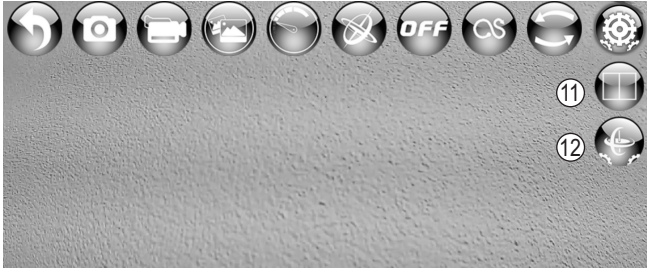

Figure 26
- Select the icon in figure 26, position 13. The rotors will start to turn.
The "VR" icon (figure 26, position 11) activates a "quasi 3D mode". The live image from the camera is split into two parts on your smartphone screen. This allows you to connect your smartphone to a 3D headset (not included, must be purchased separately) and use FPV mode in 3D (i.e. with spatial perception). Enable 3D mode in the app (figure 26, position 11) and insert your smartphone into the 3D headset. Wear the 3D headset and start the quadcopter.
If the trim controls are not sufficient to prevent the quadcopter from drifting or responding abnormally, the sensors must be recalibrated. Place the quadcopter on a stable, level surface and touch the calibration icon (figure 26, position 12). The LEDs in the outrigger arms will start to flash. The LEDs will stay constant when calibration is complete.